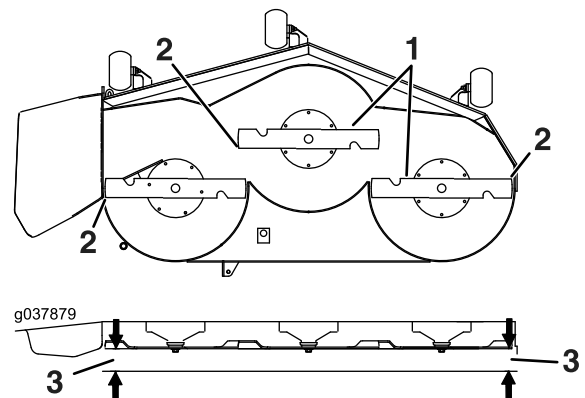

Figure 88
6. Measure between the blade tip and the flat surface (Figure 88). If both measurements are not within 5 mm (3/16 inch), adjust the leveling; continue with this procedure.
14. Carefully rotate the blades side to side (Figure 88).